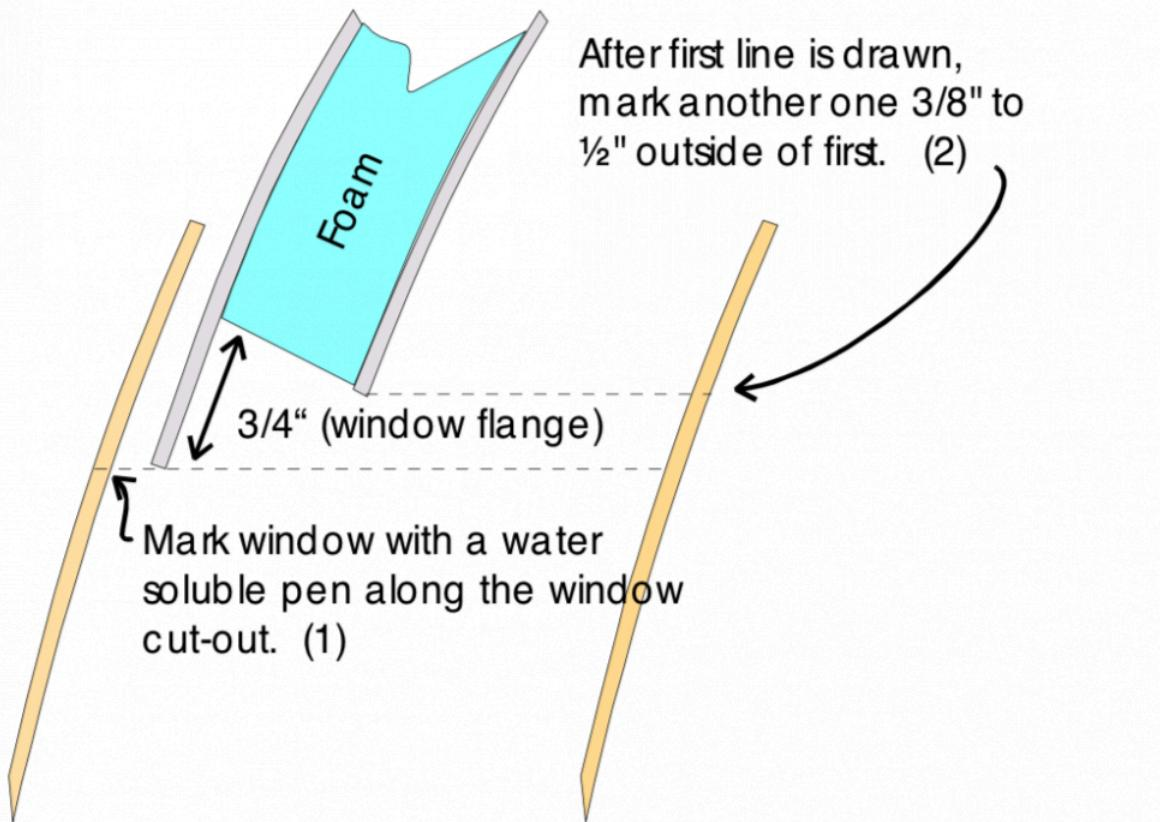

Figure 5-1. Fitting Windows and Creating Fuselage Flange
- ___ Place windows in a position of best conformance on the outside of the fuselage. Mark the windows with a water soluble pen from the inside. Remove and cut the windows 3/8" to 1/2" outside the markings. Fit the windows from the inside without cutting away too much glass. See Figure 5-1.